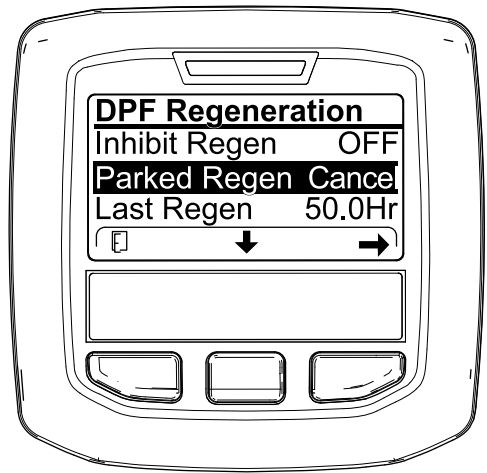
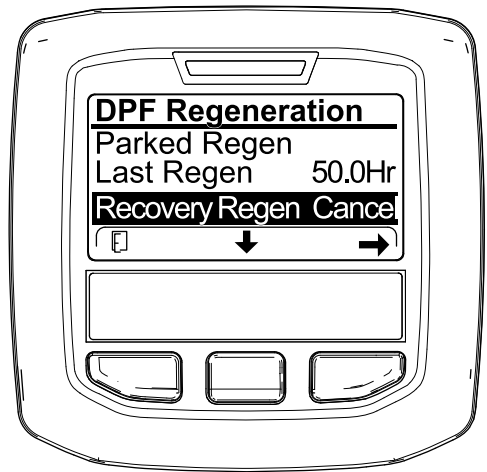

Figure 35
Figure 36
1. Access the DPF Regeneration menu (Figure 35).
2. Press the center button to scroll down to the PARKED REGEN CANCEL (Figure 35) or the RECOVERY REGEN CANCEL option (Figure 36).
3. Press the right button to select the Regen Cancel entry (Figure 35 or Figure 36).